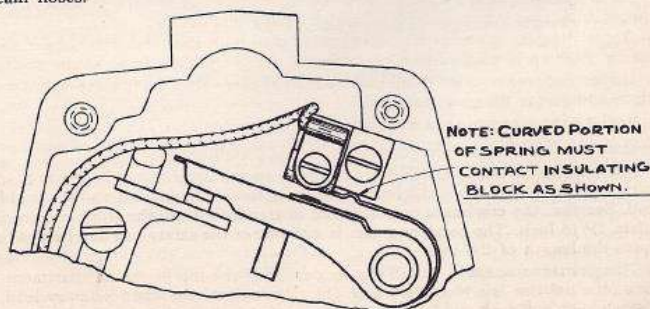

Figure 3.
- (a) For geared machines the free end of the spring, together with the primary lead terminal, are fastened to an insulating block by a small screw and lockwasher as shown. Note the exact position of lead wire and terminal. See that the spring has a little twisting tension tending to keep the bar from riding out on its bearing stud. Apply a drop of oil or a film of grease to the bearing stud. See Fig. 3.